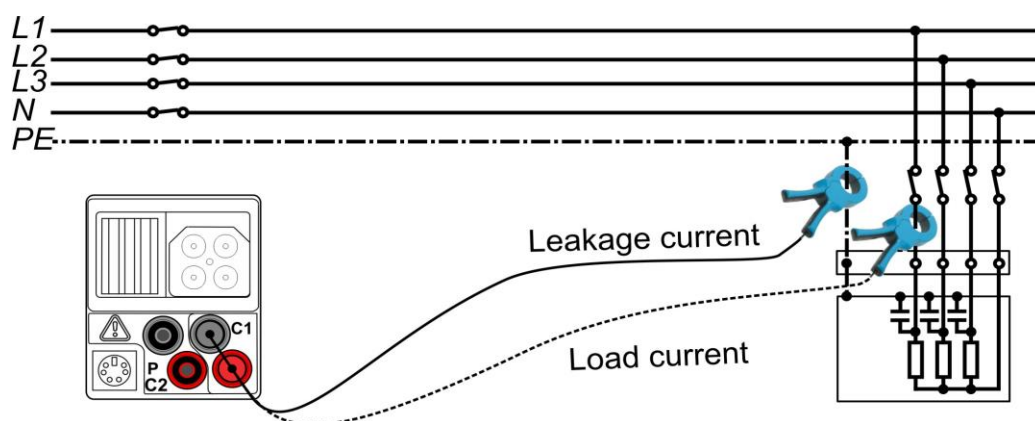

Figure 7.9: Leakage and load current measurements
- ❑ **Connect** the clamp(s) to the item to be tested (see figure 7.9).